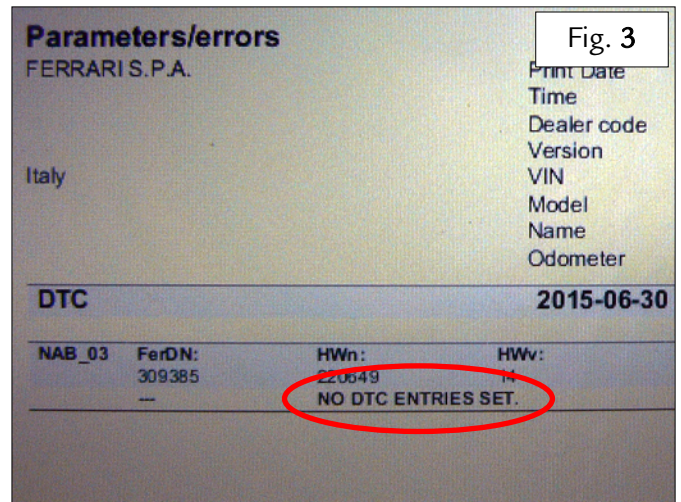

Fig. 3
1.9. Access the “DTC” area of the DEIS Tester relative to the “NAB” airbag ECU, select “Save”, “Preview” and “Print” in the sequence given and check that there are no active errors in the ECU memory (see Fig. 3).